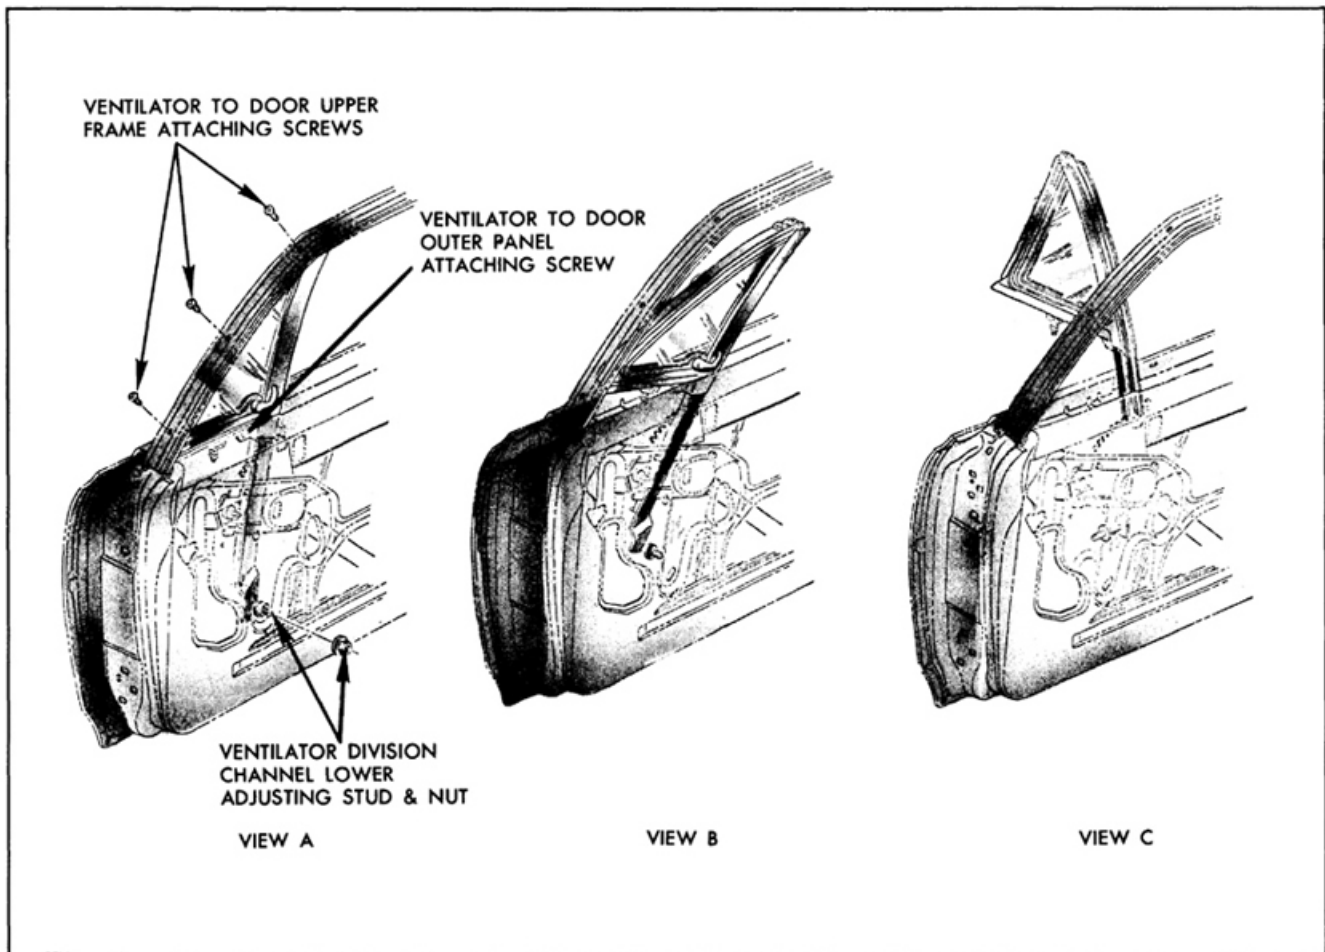

Fig. 16-340 Front Door Ventilator Assembly Removal
4. Remove ventilator division channel lower adjusting stud nut, ventilator frame-to-door outer panel return flange attaching screw and three ventilator-to-door upper frame attaching screws. (View "A" Fig. 16-340)
6. Lift ventilator rearward and upward until lower forward corner of assembly is free of door upper frame. (View "B" Fig. 16-340)
1. A slight fore or aft adjustment of the ventilator division channel is available at the lower adjusting stud and nut by loosening attaching nut and sliding nut in slot provided. The division channel can also be positioned in or out by loosening nut and turning stud in or out as required and tightening nut. (Fig. 16-340)